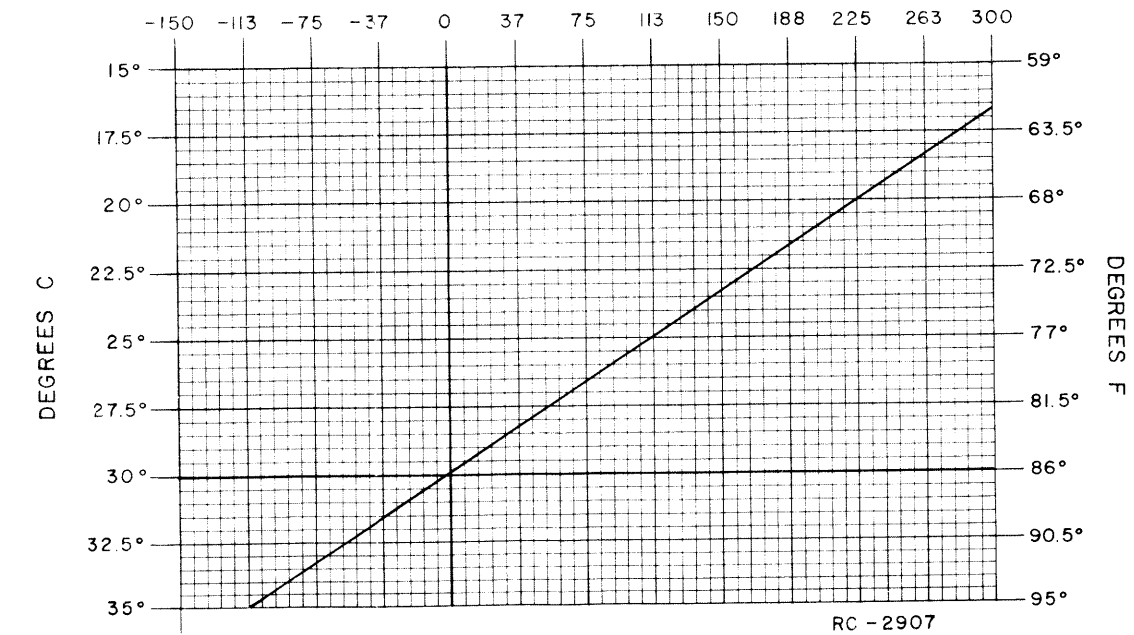

Figure 3 - Frequency Characteristics Vs. Temperature
First, check the frequency to determine if any adjustment is required. (Refer to frequency offset chart, Figure 3.) The frequency measurement requires equipment with an absolute accuracy that is 5 to 10 times better than the tolerance to be maintained. When adjusting the frequency, the entire radio should be as near as possible to an ambient temperature of 30°C (86°F).
To set crystal frequency using "beat frequency" method, the temperature should be at 30°C (86°F). If the temperature is not 30°C, then offset the "ON FREQUENCY" signal (at the receiver input), as a function of actual temperature, by the frequency ERROR FACTOR shown in Figure 3.
- Maintain the radio at 30°C (±5°C, -10°C) and offset the oscillator, as a function of actual temperature, by the frequency error shown in Figure 3.